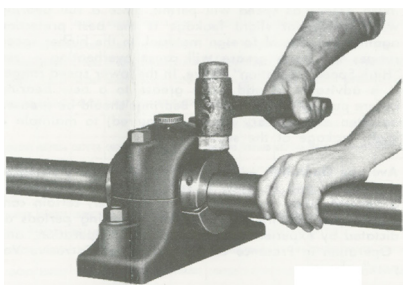

Figure 1
- Tighten clamp collar screws at both ends of bearing, to torque value in Table 3 then tap on outside of both clamp collars using a soft hammer or block to prevent denting. It is important not to tap on end or corner of collars. Instead, tap straight against outside of collar as shown in Figure 1.
2. If bearing does not slip freely from shaft after clamp collar screws are loosened rap on outside of clamp collar using a soft hammer or block to prevent denting (see Figure 1). This will allow sleeve and clamp collar to expand.